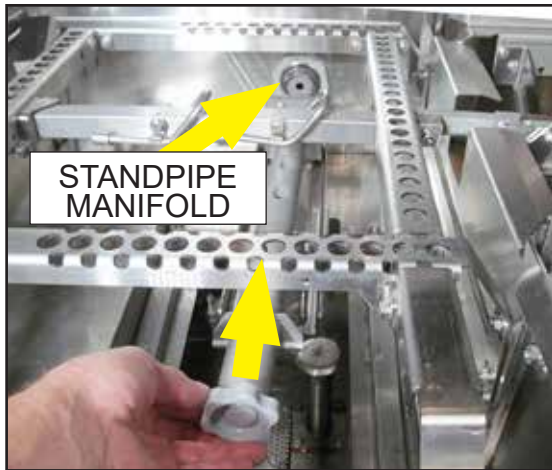

Fig. 85 - Install lower spray arm.
- 1 Slide lower spray arm until it seats in the standpipe manifold. Push spray arm down to lock in place, Fig. 85.